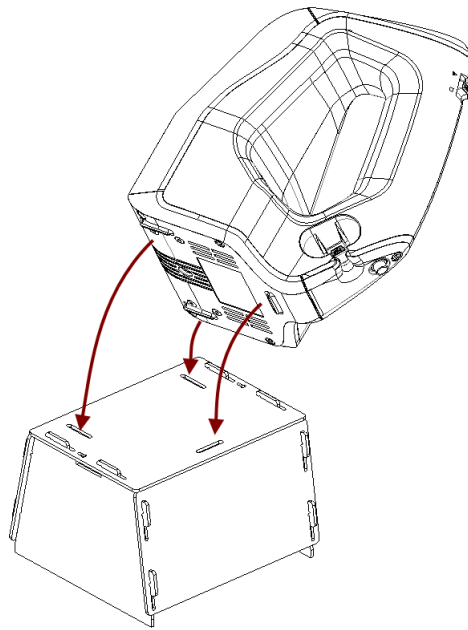

Figure 11.7: Placing Artec Spider on the stand
3. Place the scanner on the scanner stand, making sure that you insert the three scanner stems in the three slots of the stand cover (see Figure 11.7).